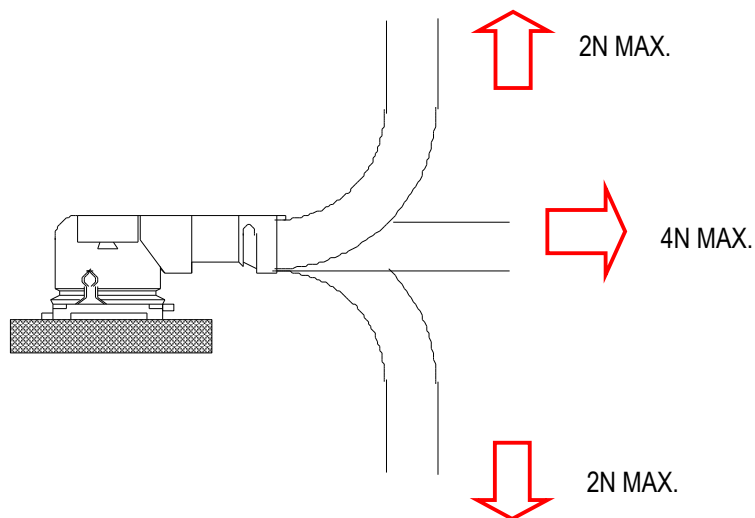

Fig. 9
- In the case of Fig. 9, it has possibility to damage to the housing and come off from receptacle connector. Especially when operator give continuous force to the direction (black allow), the tendency become higher. So please take care of handling of harness.